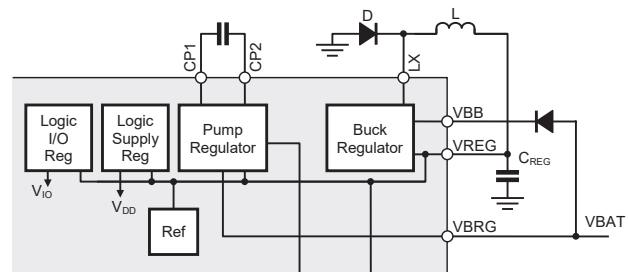
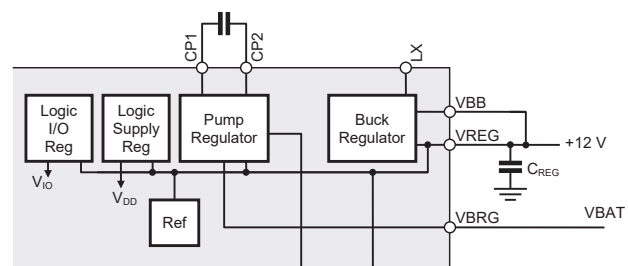

Figure 1: Buck Enabled
Figure 2: Buck Disabled
In buck enabled mode, an external diode and inductor, D and L respectively, must be connected as shown in Figure 1. A single unregulated supply of 10 to 80 V is applied to VBB, and the buck converter produces a regulated output voltage on the VREG terminal. VBB is typically connected to VBRG via a reverse voltage blocking diode as indicated.
In buck disabled mode, VBB and VREG are both connected to an externally regulated 12 V (nominal) supply^[1] and the external diode and inductor, D and L, need not be fitted, as shown in Figure 2. In this case, the VREG terminal acts as an input to the device rather than an output. The voltage at the VBAT terminal may vary over its full range of 4.5 to 80 V in this configuration.
No device damage will occur if attempting to run in buck disabled mode (Figure 2) with external D and L fitted or attempting to run in buck enabled mode (Figure 1) with external D and L not fitted.
The device is in buck disabled (externally regulated supply) mode with the architecture shown in Figure 2. To enable the buck regulator, follow the instructions below:
9. Change the architecture to that shown in Figure 1.
The device is in buck enabled mode with the architecture shown in Figure 1. To disable the buck regulator, follow the instructions below:
9. Change the architecture to that shown in Figure 2.